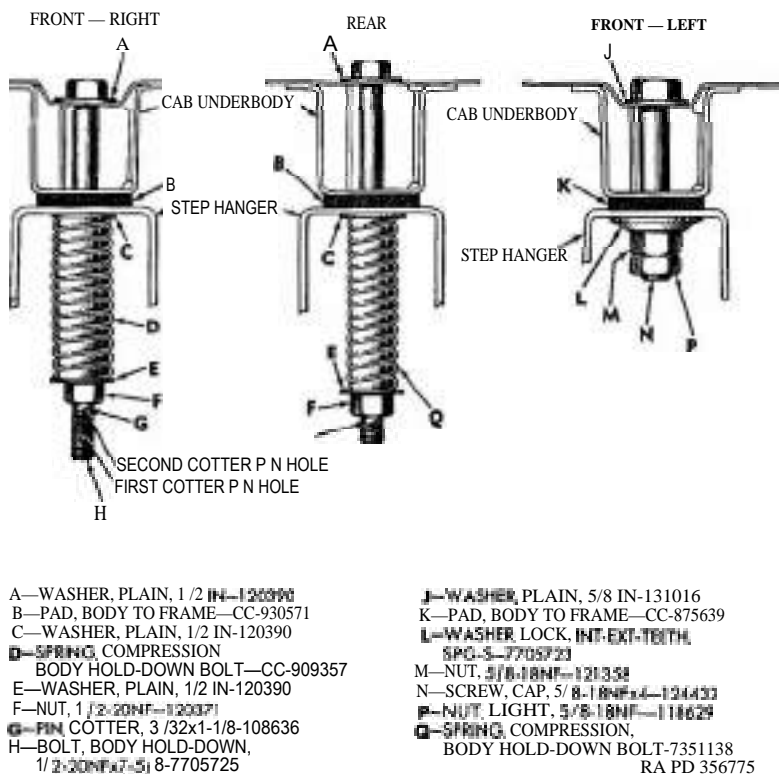

Figure 40. Cab hold-down bolt and cap screw assemblies.
- (1) Position winch assembly on frame side rails and front bumpers (six $\frac{1}{2}$ -20NF x $1\frac{1}{2}$ cap screws and $\frac{1}{2}$ -inch lock washers in winch-to-frame brackets (B and D) ; four $\frac{1}{2}$ -20NF x 1 cap screws and $\frac{1}{2}$ -inch lock washers in winch-to-bumper brackets (C)).
- (2) Position front universal joint assembly on winch worm shaft (A) ; then install shear, pin and new $\frac{3}{32}$ x cotter pin.
- (3) Position collar on splined end of winch drive shaft assembly (on trucks so equipped), 1 inch from rear universal joint yoke. Tighten $\frac{3}{8}$ -16NC x $\frac{7}{8}$ square-head, drilled-for-locking-wire-head set screw and install $\frac{1}{16}$ diameter x $8\frac{1}{2}$ long locking wire.
a. Install Cab Assembly (fig. 40) .
- (1) Place three large body-to-frame pads (B) on the two running board hangers and left running board rear